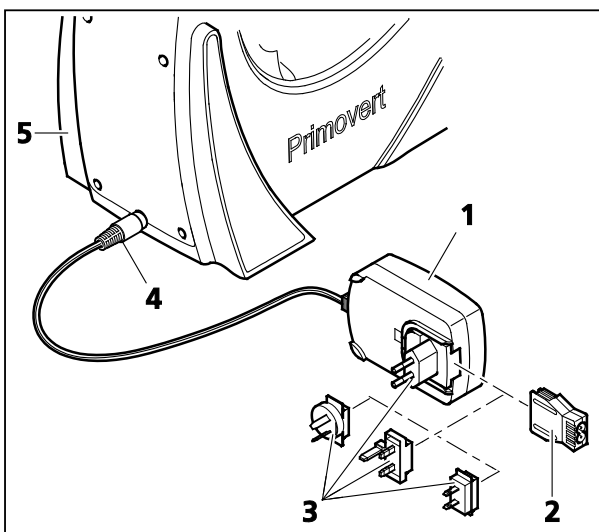

Fig. 10 Connecting the plug-in power unit
- If necessary, replace the power supply adapter attached to the plug-in power unit (Fig. 10/1) by one of the country-specific adapters supplied (Fig. 10/3), pulling off the existing adapter and inserting the desired one.
- Insert the plug (Fig. 10/4) of the plug-in power unit into the connection socket located on the rear of the stand (Fig. 10/5).
- Connect the plug-in power unit (Fig. 10/1) with a power outlet.
- If the plug-in power unit cannot be plugged into the chosen power outlet because of limited space, replace the power outlet adapter by the supplied IEC adapter (Fig. 10/2). This allows the plug-in power unit to be put flat onto the tabletop and connected to the power outlet through a country-specific appliance cable.